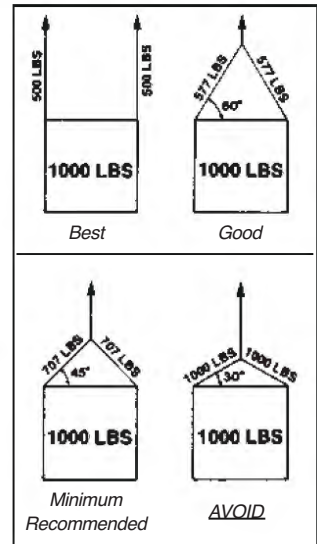

Figure 92 Effect of Sling Angle on Sling Load
- Understand the effect of sling angle on sling load (Figure 92) and pull angle on beam load (Figure 93).